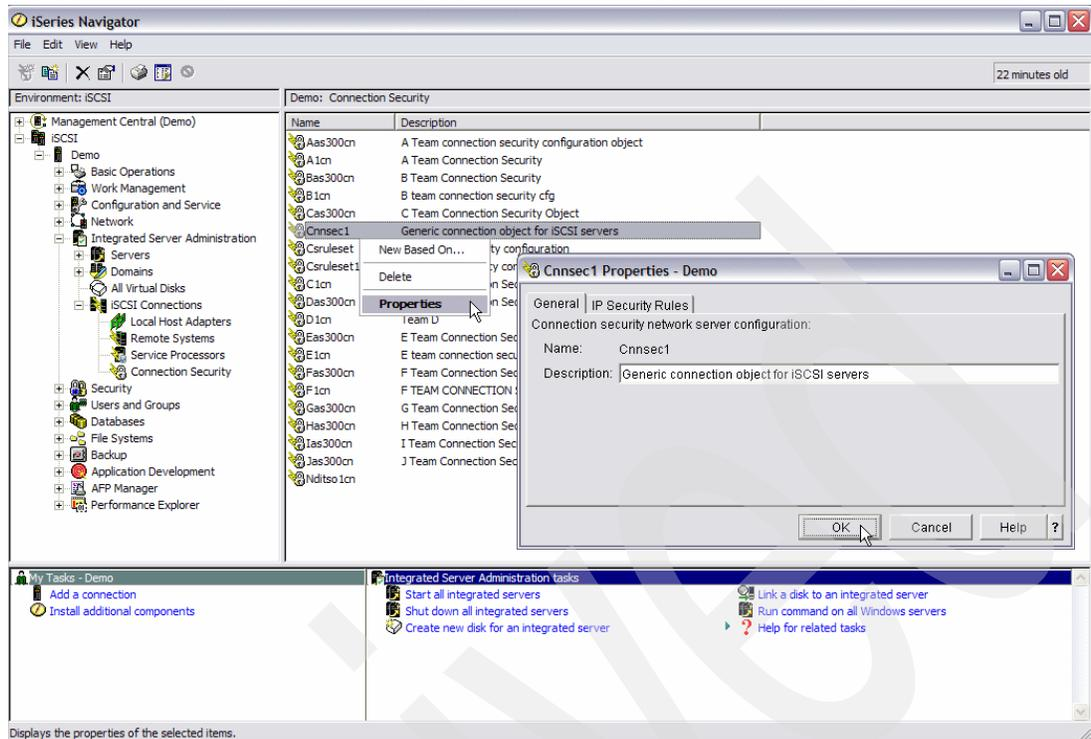

Figure 6-56 Properties CNNSEC in iSeries Navigator
- a. Expand **YourSystem** → **Integrated Server Administration** → **iSCSI Connections**. See Figure 6-56 on page 204.